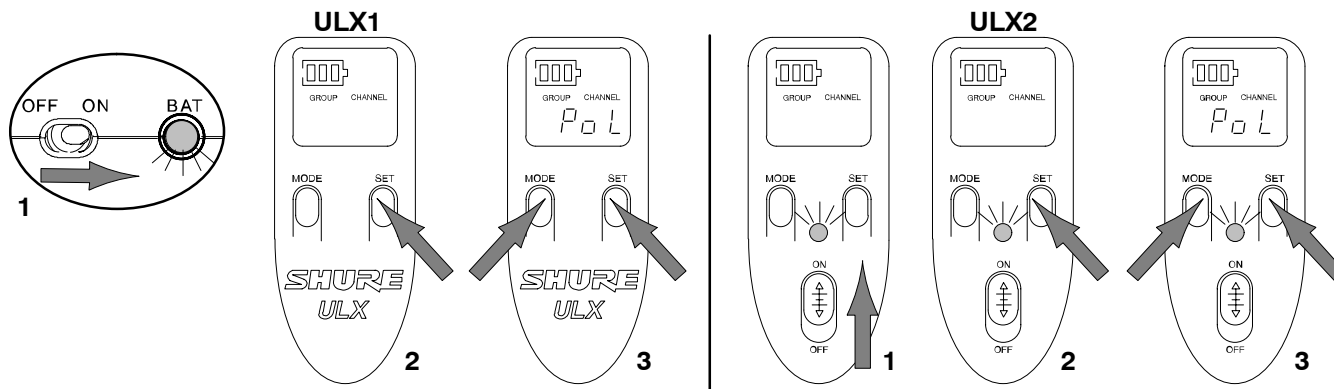

FIGURE 35
2. While holding down the SET button, press and hold the MODE button for four seconds. “Po L” will appear on the display. See Figure 35. This display indicates that the Power On/Off switch is locked. The transmitter will remain on, even when the power ON/OFF switch is moved to the OFF position.